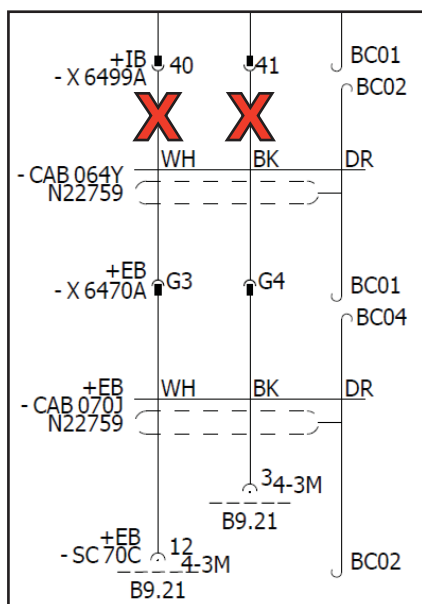

Figure 9 - Wires to be Cut and Insulated, and Sealing Plugs to be Installed on +IB-X6499A Connector
- 1.20. Remove the pins in positions 40 and 41 of the +IB-X6499A connector using the N8904487 extractor tool or equivalent. See Figures 9 & 10.
- 1.21. Install a 562288 sealing plug in positions 40 & 41 of the +IB-X6499A connector. See Figure 9.
- 1.22. Cut the pins on the two removed wires (positions 40 & 41 of the +IB-X6499A connector). See Figure 9.